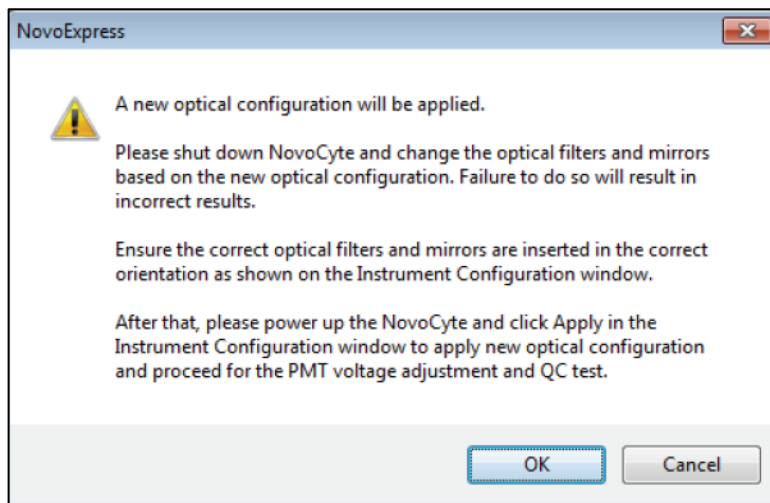

Figure 31. Dialog Box for Instructions on Properly Applying New Optical Configurations to Complete Modifying the Optical Configuration
- 4 Please read the instructions from the prompted window as shown in Figure 31. To change the optical filters, press the power button on the front panel of NovoCyte to power off the instrument first. Insert the NovoCyte key into the keyhole on the left side of the instrument to open the top cover of the instrument.